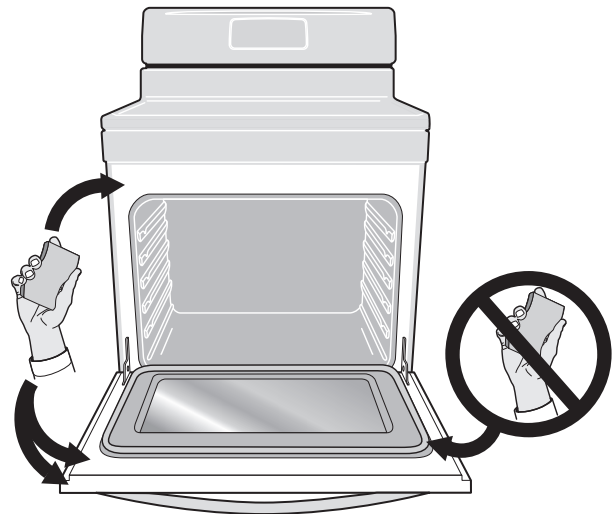

Figure 21: Areas to clean and to avoid
- Do not use oven cleaners or oven protective coatings in or around any part of the oven interior. Clean any soil from the oven frame, the door liner outside the oven door gasket, and the small area at the front center of the oven bottom (See Figure 21). These areas heat sufficiently to burn soil on. Clean using soap and water prior to starting Self Clean.